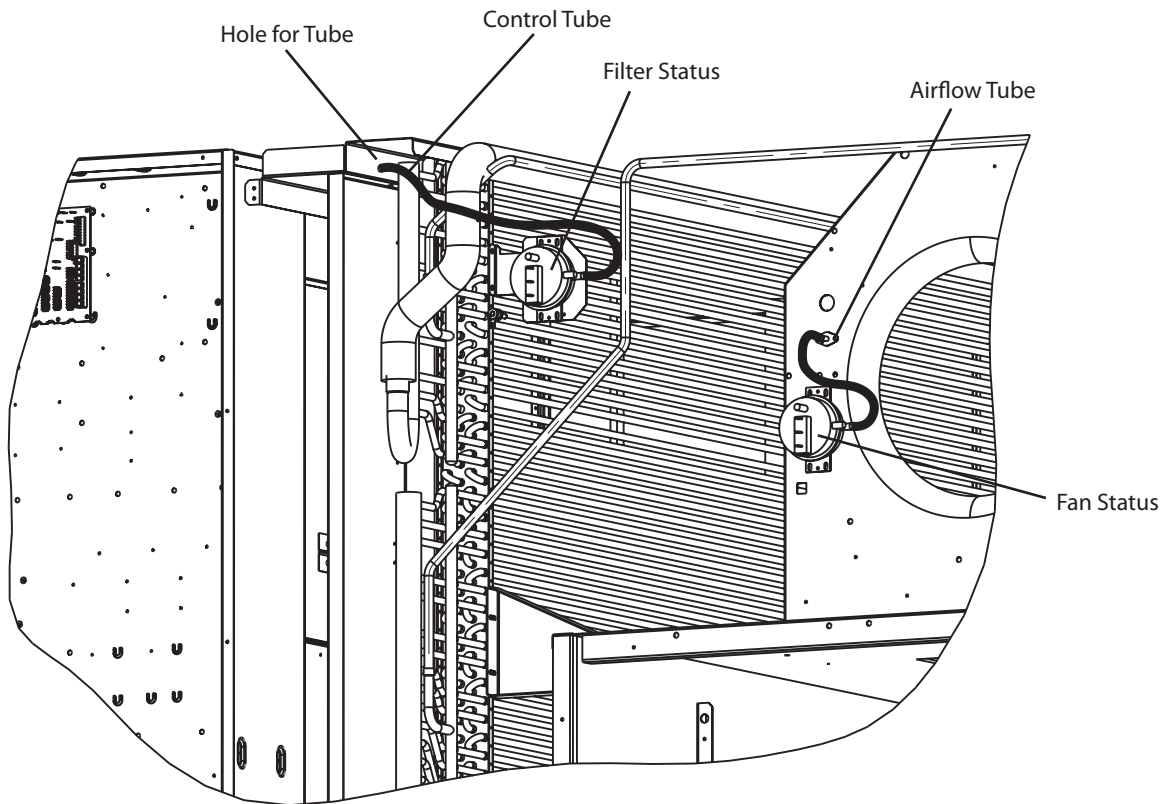

Fig. 1 - Fan/Filter Status Switch
3. Mount the switch (HK06WC027) on the fan housing in the fan section as shown in Fig. 1, using the #10 screws provided.
NOTE: The arrow of the pick-up tube should point down as shown in Fig. 1.
2. Mount the switch (HK06WC0039) on the fan bracket and screw assembly into coil tube sheet as shown in Fig. 1, using the #10 screws provided.
3. Insert tube over barbed port (+) and route the other end through hole in the sheet metal bracket as shown in Fig. 1.